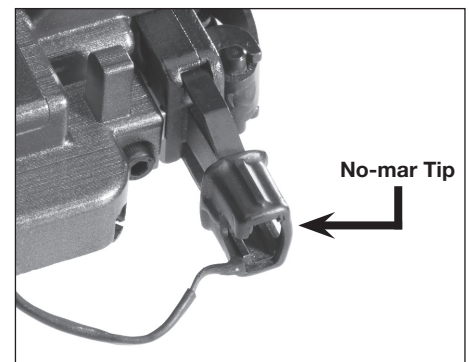

Figure 5 - No-mar Tip
**NO-MAR TIP** — The no-mar tip is designed to eliminate marks caused by the serrated Work Contact Element (WCE) (see Figure 5). The no-mar tip may be removed and tethered to the tool if not required (See REMOVING NO-MAR TIP) or when a slightly deeper countersink is preferred. Simply slide the no-mar off the WCE and attach to the storage post on the tool's electronic shroud.